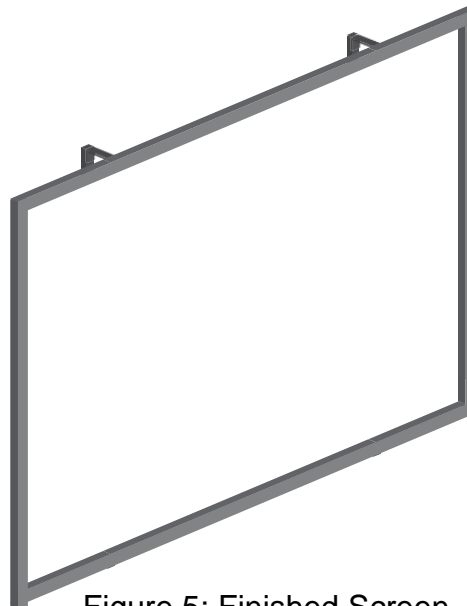

Figure 5: Finished Screen Attached to Wall Boards
10. Attach the frame/screen assembly to the previously mounted wall boards on the wall using the 1/4-20 x 3/4" hex head bolts (refer to Figure 5).